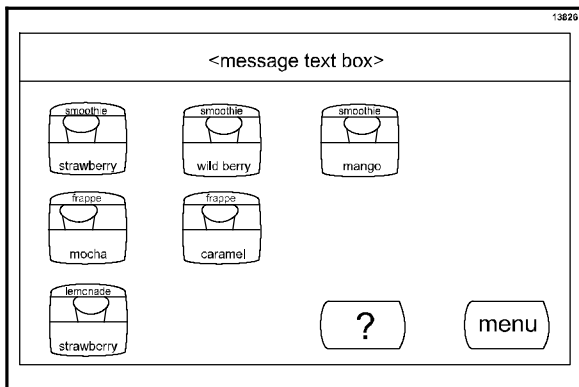

Figure 12
2. From the Beverage Selection Screen, press the appropriate product key. (See Figure 12.)